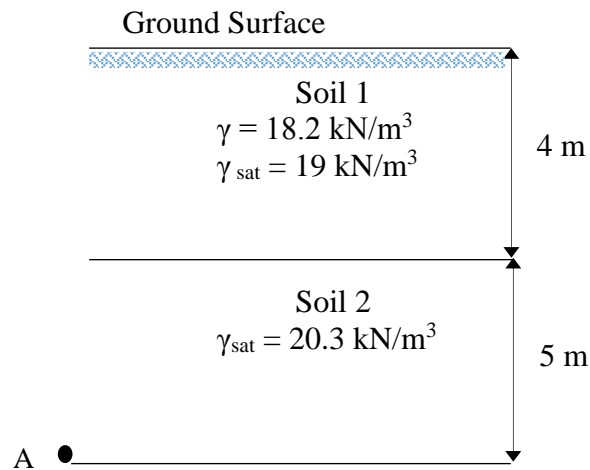

Figure B1(a) / Rajah B1(a)
- (a) **Figure B1(a)** shows the soil condition and the various unit weight for each soil type. Calculate the total stress, pore water pressure and effective stress at point A for the following condition: